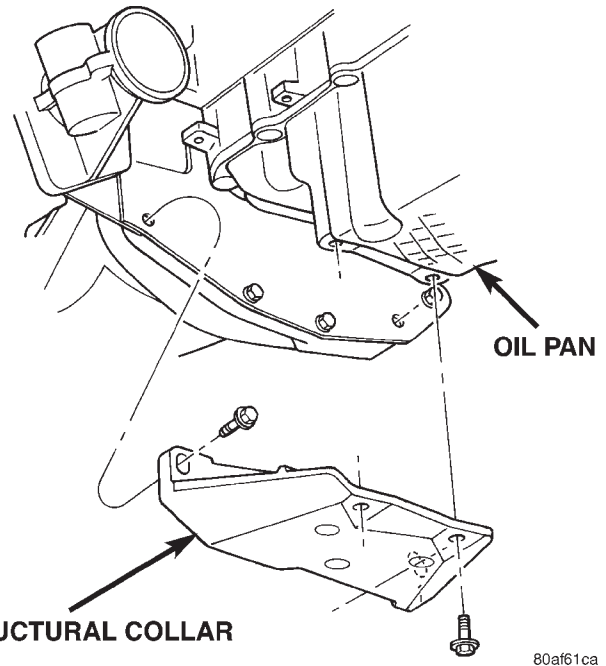

Fig. 14 Structural Collar—Removal and Installation
(2) Remove structural collar from oil pan to transaxle (Fig. 14).
(1) Install the structural collar (Fig. 14) using the following 3 step torque sequence:
(2) Lower vehicle.